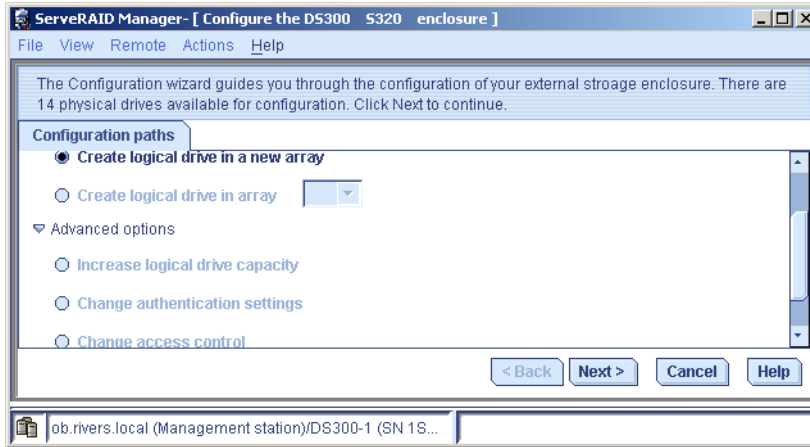

Figure 4-58 Configuration options
3. The window shown in Figure 4-58 on page 116 permits all access control lists or authentication settings to be managed. Selecting a logical drive and choosing the **Configure access control list** from the context menu allows only the modification of this access control list. The same is true for the authentication settings. This is called **Configure target information**. When the TotalStorage DS300 has no array or logical drive configuration applied, only a new logical drive can be created. All other options will be greyed out. For our example, verify that **Create logical drive** is selected as shown in Figure 4-58 on page 116, and click **Next**.